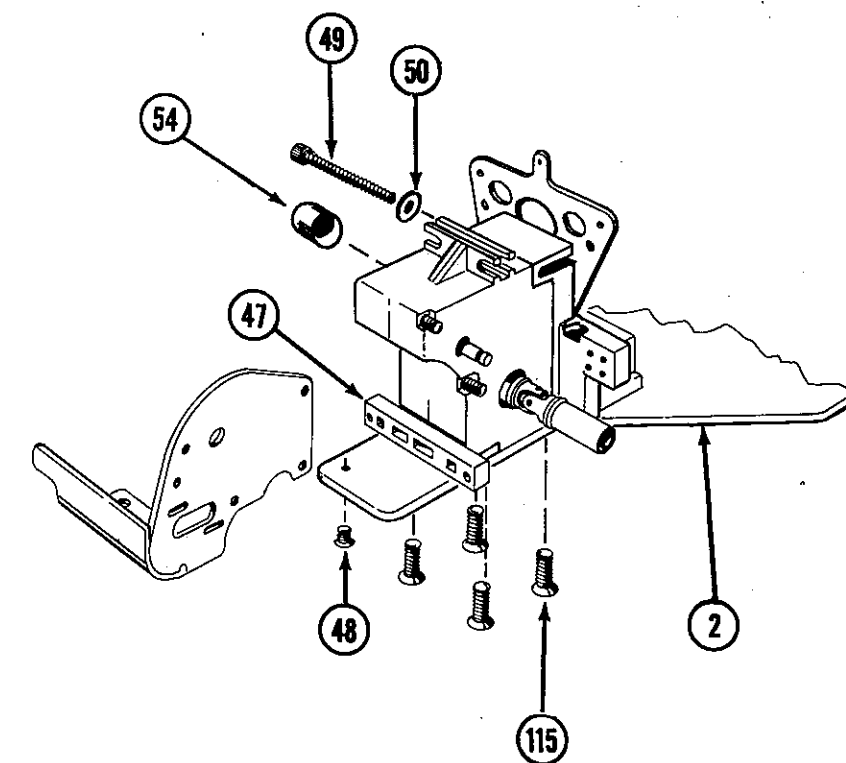

FIG. 20
34. While holding rear pivot support (47) in place under rear of gearbox, slide gearbox into place in rear bulkhead (6). Fig. 20.
35. Attach gearbox and rear pivot support (47) to chassis (2) using four 8-32 x 1/2" steel flathead screws (115). Fig. 20.
36. Secure motorplate (40) to chassis (2) using a 4-40 x 1/4" flathead screw (48). Fig. 20.
37. Affix gearbox to rear bulkhead (6) using a 4-40 x 1 3/4" socket head screw (49) with a #4 washer (50) under the head. Fig. 20.
* NOTE: The 4-40 nylon nut (51) and the 4-40 x 1/8" button head screw (52) will be used later to attach the gear cover
38. Push dust cover (54) over differential adjustment hole in gearbox. Fig. 20.
* NOTE: Motor screws (111) are supplied, put them aside until its time to mount your motor.